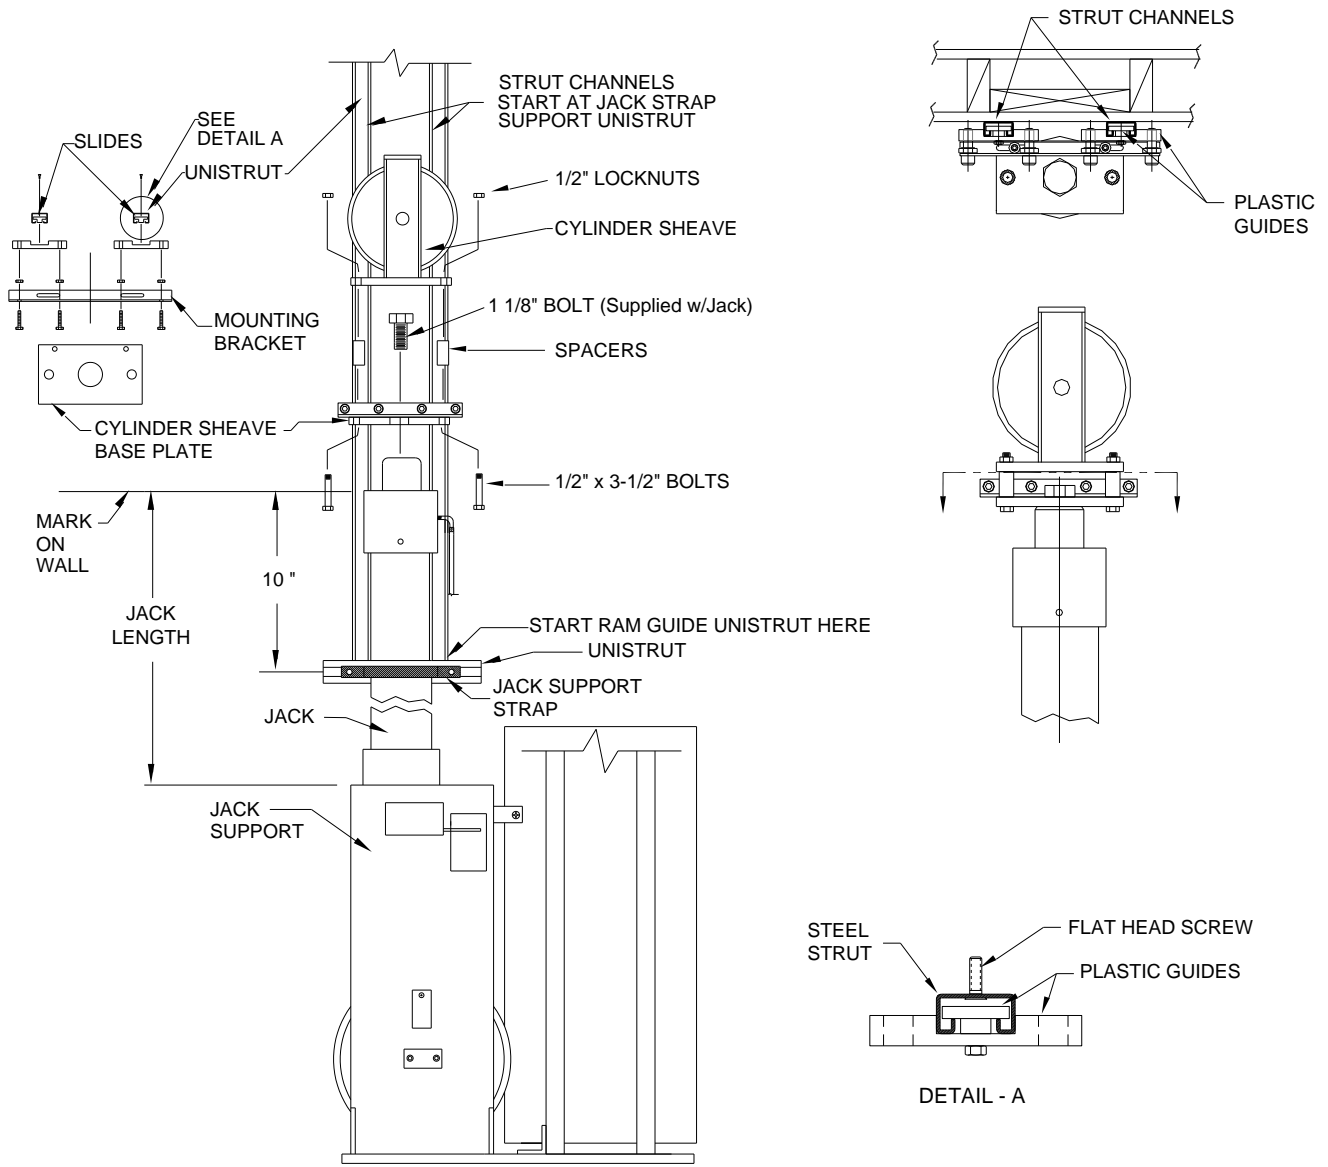

Figure 7
4. Remove the shipping bracket from the end of the piston. Remove the base plate from the cylinder sheave assembly and mount on the piston using the 1 1/8" hex head bolt (see Figure 7), the guide assembly will be toward the wall. The guide assembly should be centered (side to side) on the base plate.